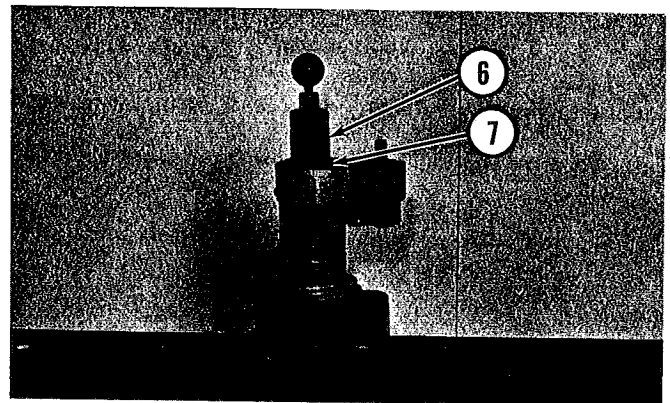

Fig. 17
15. Make complete finish cut without stopping. Stop the cutter rotation immediately when depth set collar (6) is against washer (7) as shown in Figure 17.